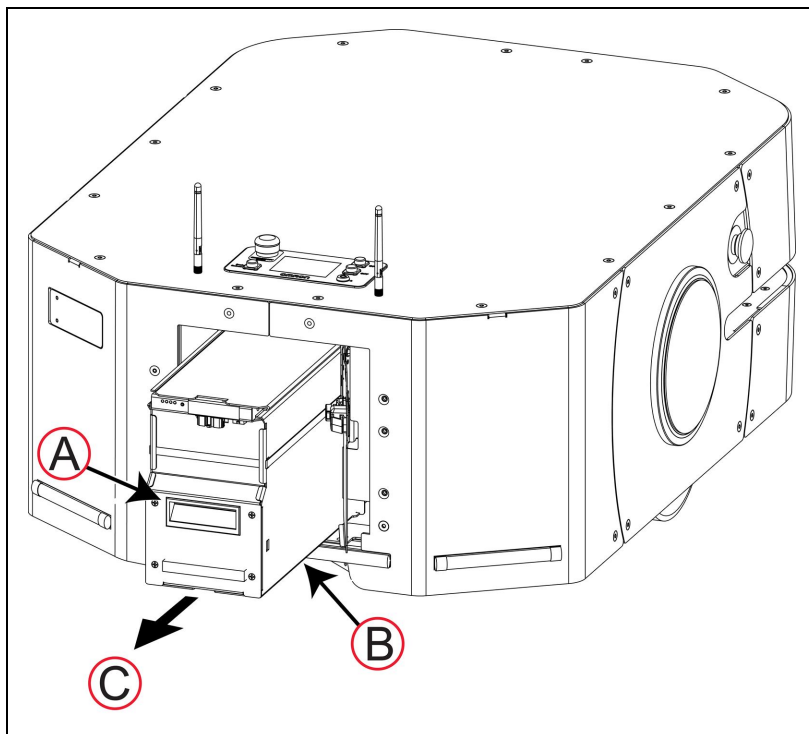

Figure 8-8 Pull out the LD-250 Battery
5. Using only the hand grip (A) in Figure 8-8, slide the battery out of the LD-250.
6. Support the battery at the bottom (B) as you pull it in the direction of the arrow (C) to prevent it from falling.